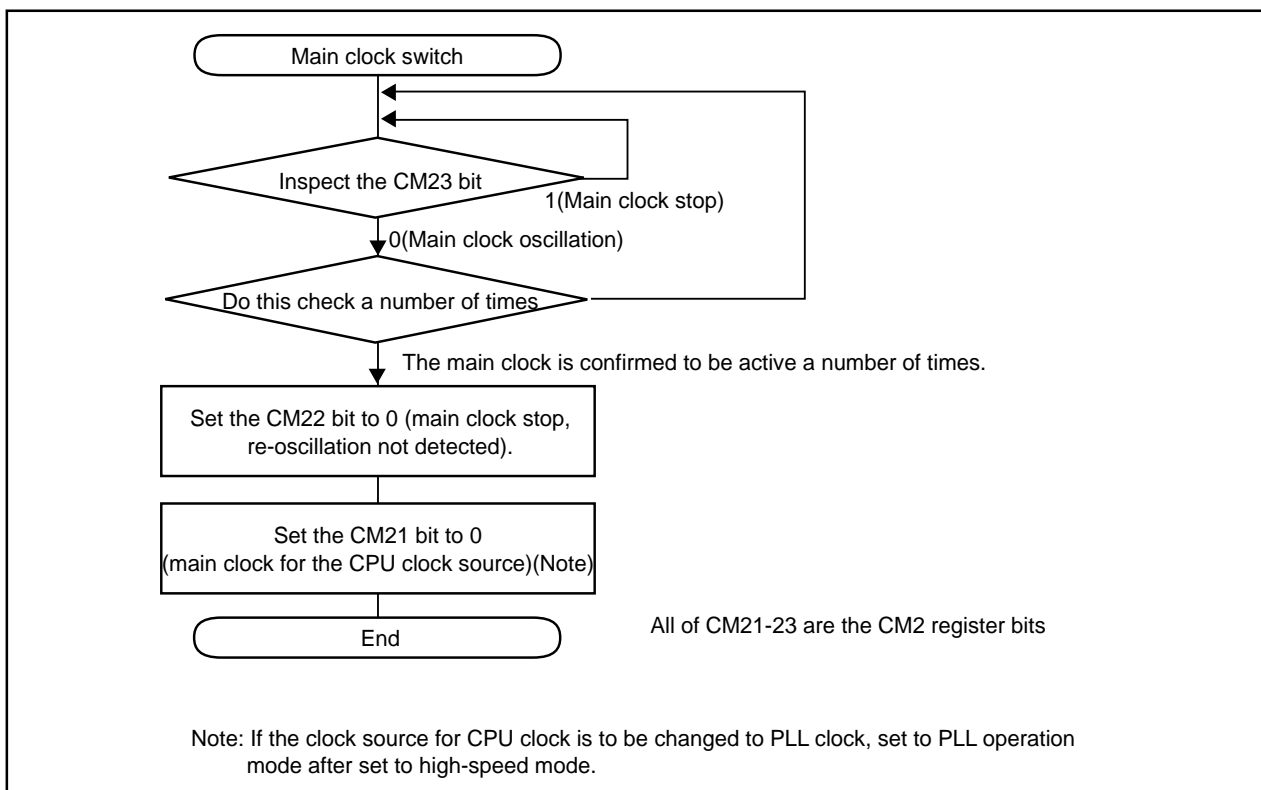

Figure 1.9.12. Procedure to Switch Clock Source From Ring Oscillator to Main Clock
- Where the main clock re-oscillated after oscillation stop, return the main clock to the CPU clock and peripheral function clock source in the program. Figure 1.9.12 shows the procedure for switching the clock source from the ring oscillator to the main clock.